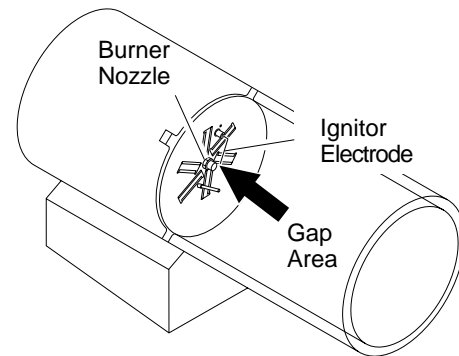

Figure 12 - Clearance between Ignitor Electrode and Target Plate
7. Check gap between ignitor electrode and nozzle to .13"/.15" (see Figure 12).